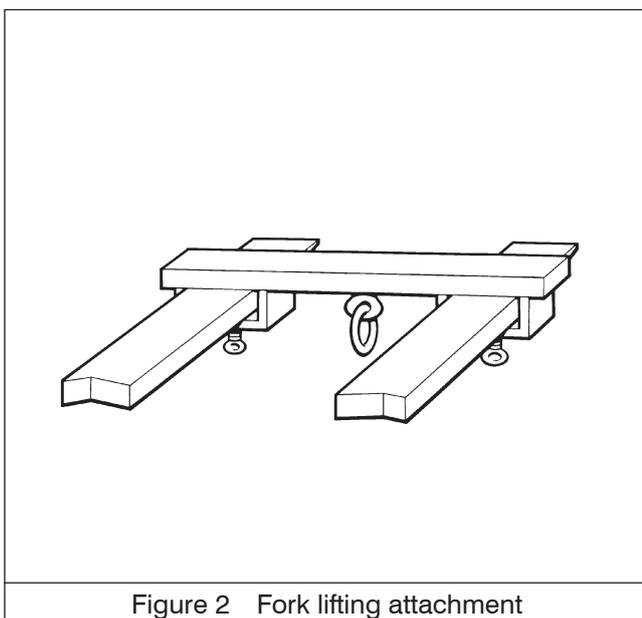

Figure 2 Fork lifting attachment
-  *If a fork lift is used to lift the collector using the lifting brackets, a suitable lifting attachment must be used to prevent the chains slipping off the forks (see fig. 2).*